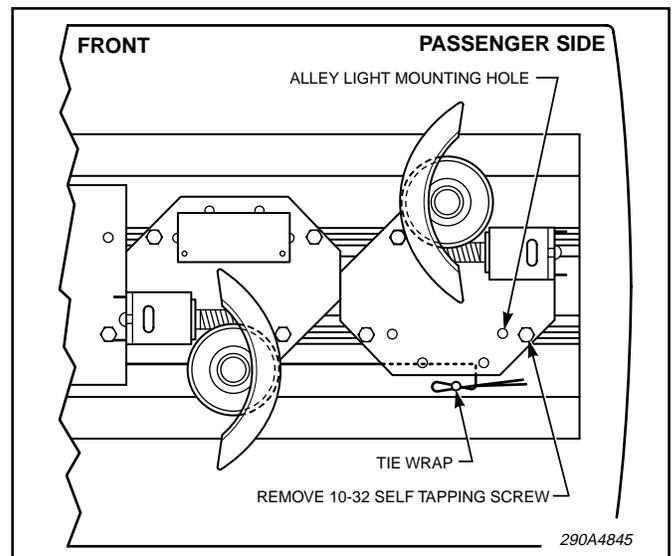
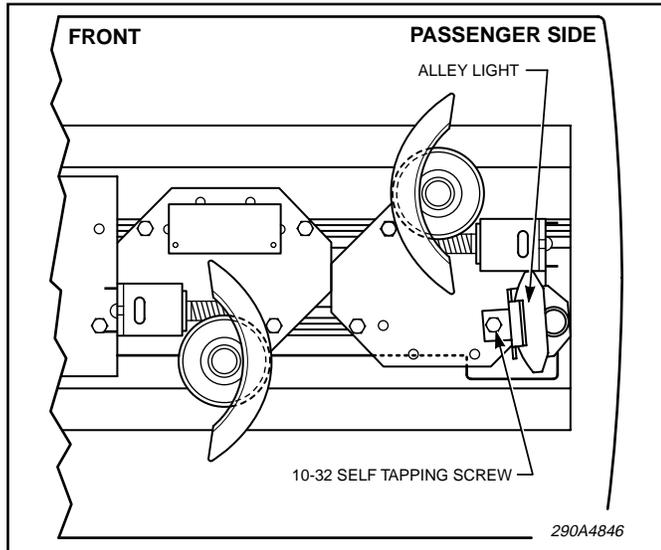

Figure 1.
Figure 2.
2. Remove the wire tie-wrap which holds down the existing alley light lead (figure 1). The lead will now be the proper length to reach the alley light assembly — when installed. In units where the lead does not exist, the wires are supplied in this kit.
3. Locate and remove the 10-32 x 5/16 self-tapping screw as shown in figure 1. Use this screw to position the reflector assembly over the proper alley light mounting hole (figure 1). Set reflector assembly to desired angle and tighten screw securely (figure 2).